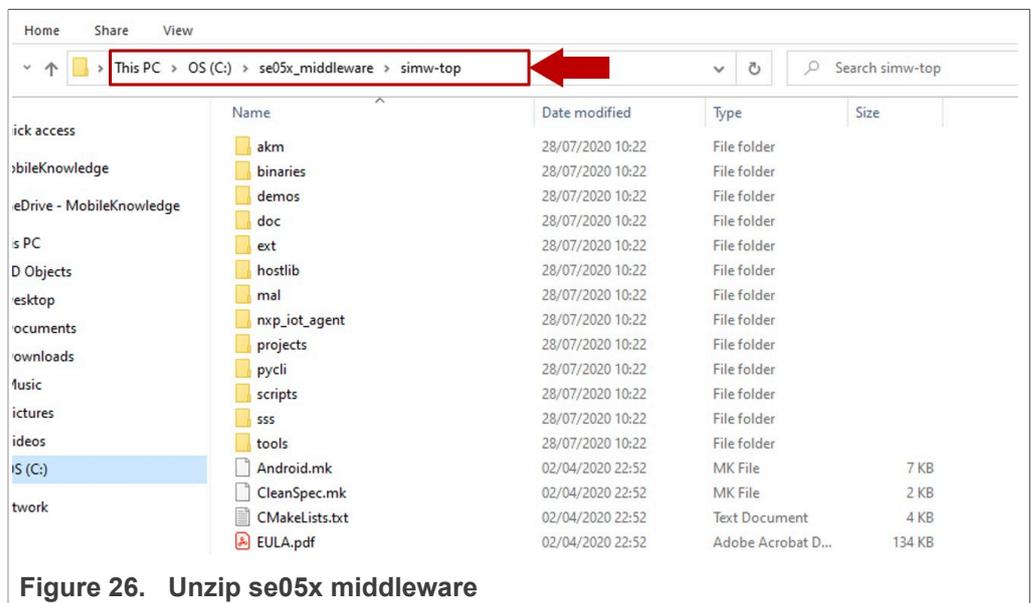

Figure 26. Unzip se05x middleware
3. Unzip the Plug & Trust middleware inside the **se05x_middleware** folder. After unzipping, you will see a folder called **simw-top** created. The contents of the **simw-top** directory should look as they appear in Figure 26: